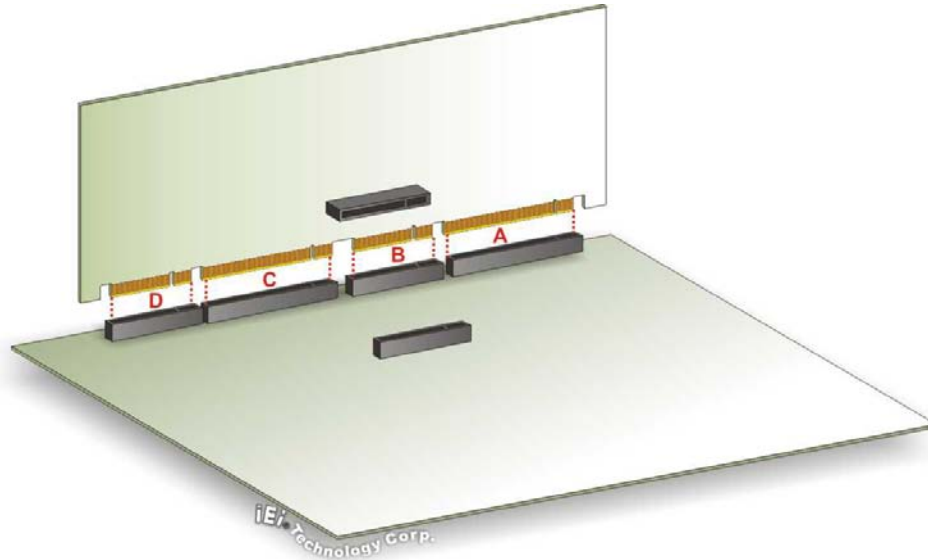

Figure 5-17: SPCIE-3600AM2 Installation
Step 1: Align the edge connectors. Align the four edge connectors (labeled A, B, C and D in **Figure 5-17**) on the SPCIE-3600AM2 with the corresponding connectors on the PICMG 1.3 backplane. See **Figure 5-17**.